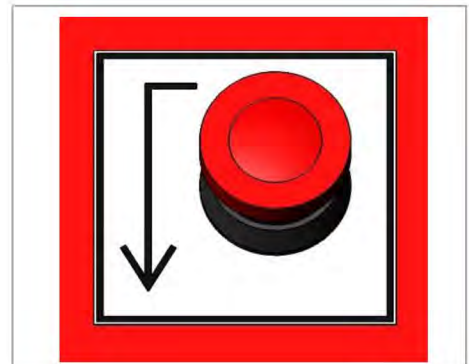

Fig. 4.11
- + Press release button (Fig. 4.11). The machine opens the jaws